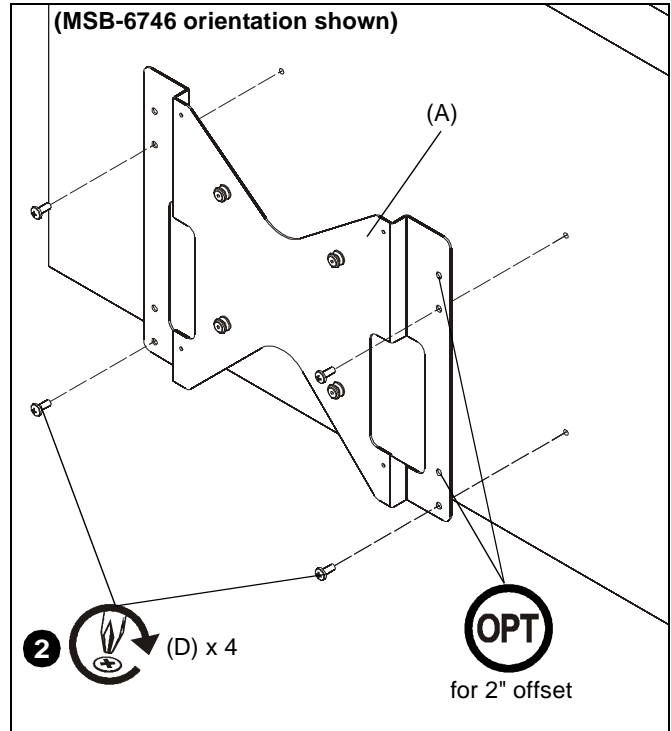

Figure 2
2. Attach interface bracket (A) to back of display using four M8 x 20mm Phillips cap head screws (D). (See Figure 2)